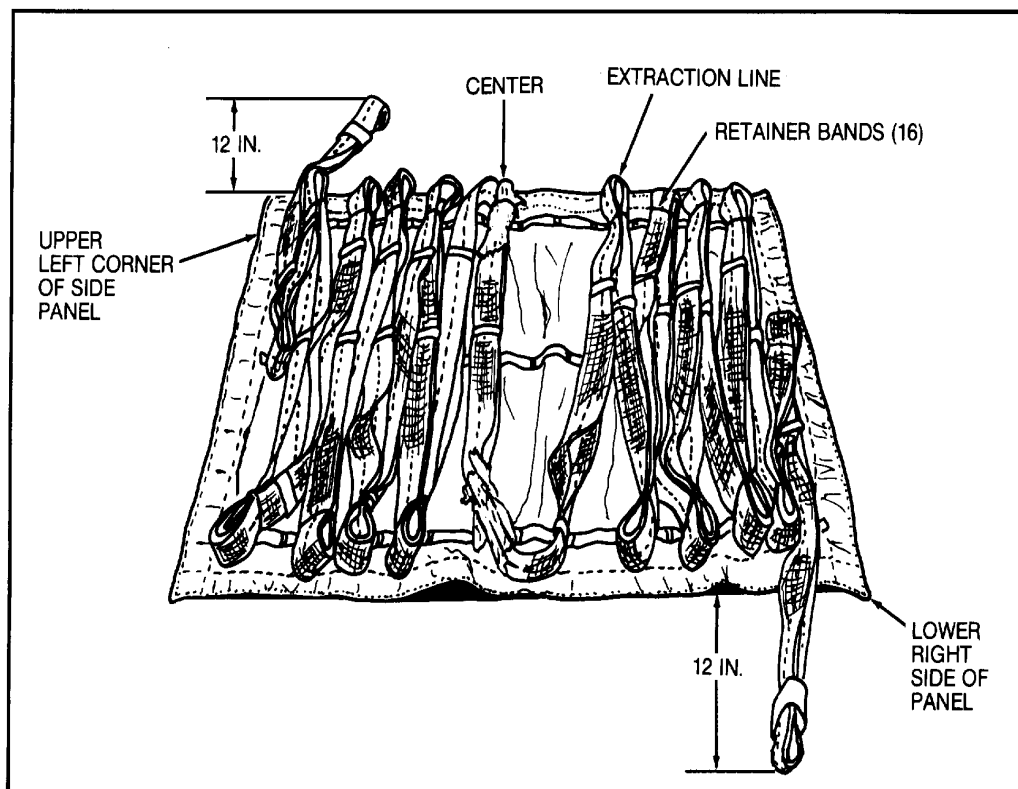

Figure 3. Stowing 60 FT. One Loop Extraction Line.
- d. Starting at center of panel, stow lower half of extraction line on right side of panel (figure 3). S-fold/stow extraction line lengthwise on panel and secure each stow with retainer bands. Continue stowing extraction line until approximately one foot of extraction line extends from lower right corner of panel.